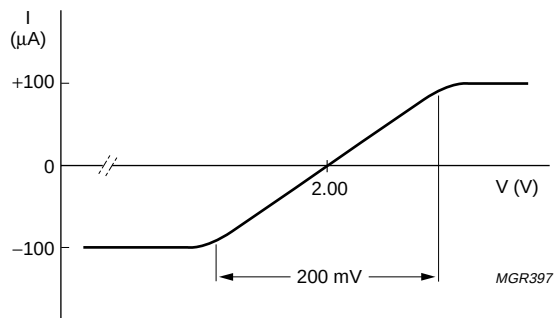
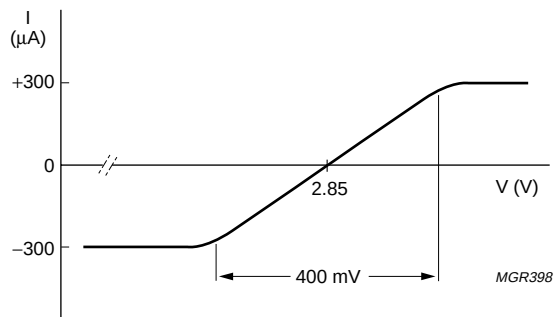

Fig.9 Typical clamp current for pin CPCDS.
Fig.10 Typical clamp current for pins IND and INP.
- More information about CDS related signals is available in the following figures: The clamp current for pin CPCDS is given in Fig. 9, clamp current for pins IND and INP in Fig 10 and for clamp current for pin  $V_{\text{ref}}$  in Fig 11. The CDS output amplitude is shown in Fig. 14